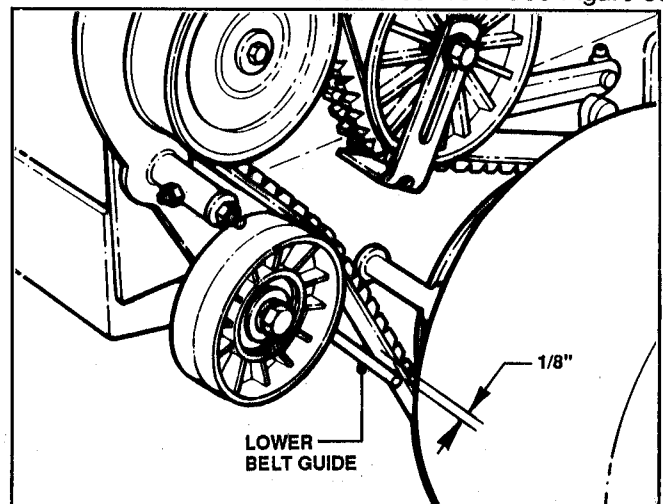

FIGURE 33
4. Measure distance between Belt Guides and bottom of belt. This dimension should be 1/8". See Figure 33.